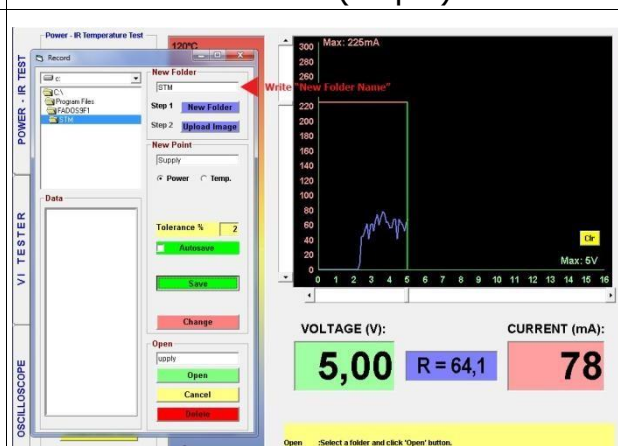

Figure 19: Recording the DC VI Graph (Step 4)
4. The "DC Voltage/Current Graph" is stored (recorded) by clicking on the "Recording" Button. (Figure 19)